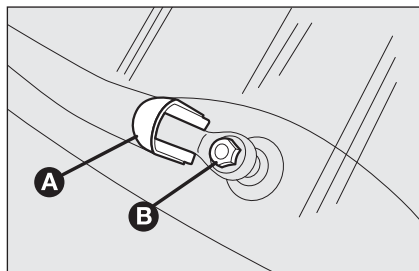

fig. 17
- ☐ raise the cover **A**-fig. 17 and remove the arm from the car, slackening the nut **B** that fastens it to the pivot pin;